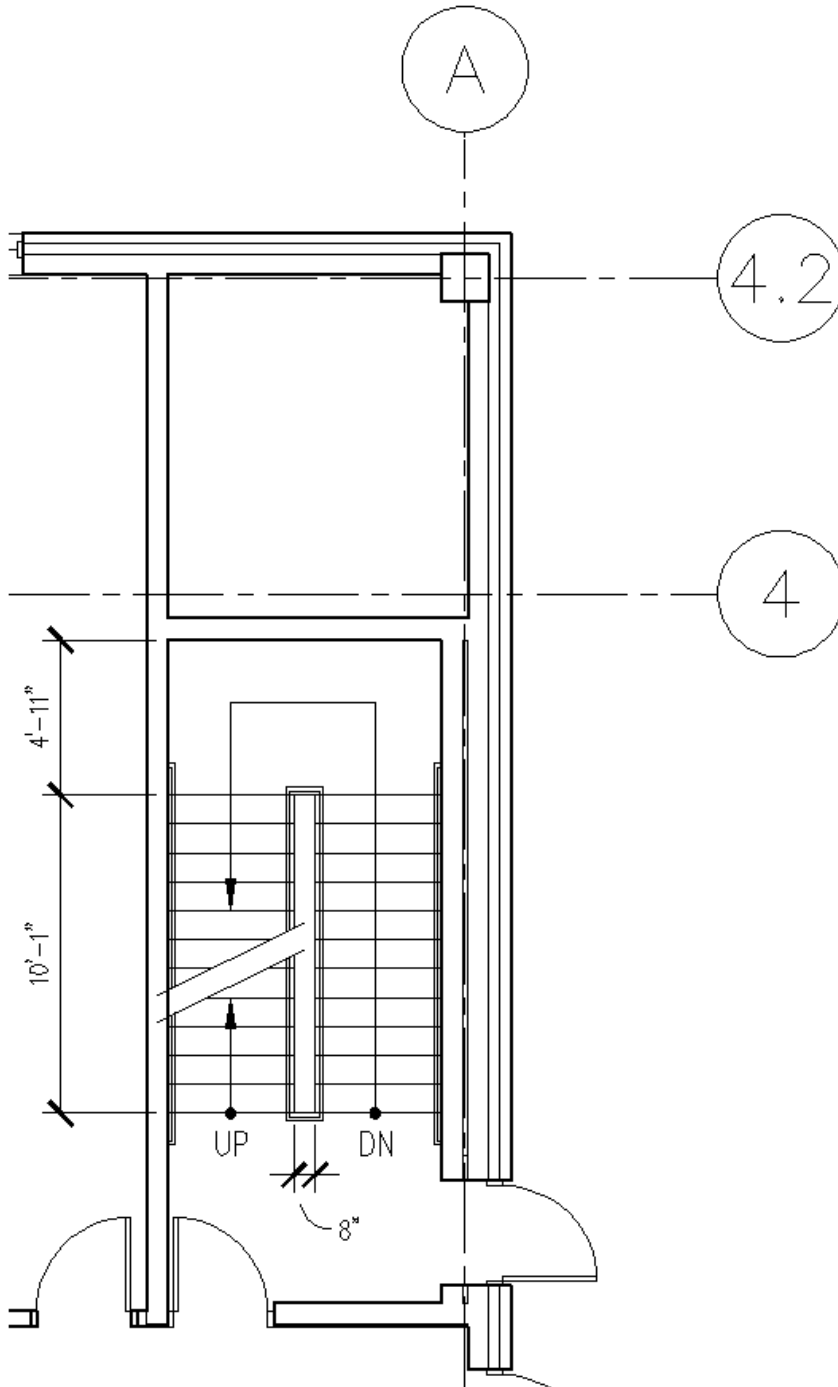

FIGURE 4-3.15 East utility stair shaft
32. Following the same instructions as the previous step, draw the east stair per **Figure 4-3.15**, plus
Notice in Figure 4-3.15 that the angled break lines help to delineate both the *up run* and the *down run*, which would otherwise overlap and be confusing.